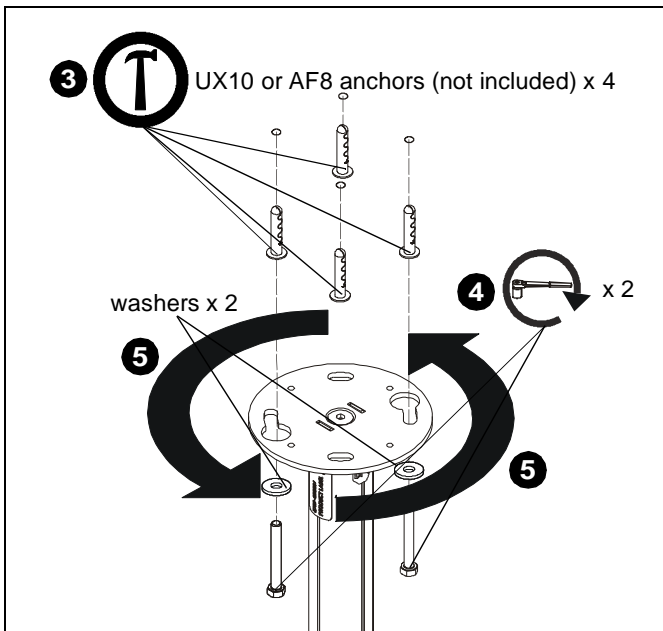

Figure 8
3. Install four UX10 or AF8 anchors into four drilled holes. (See Figure 8)
4. Loosely install two 5/16" x 2 3/4" bolts (not provided) through two 5/16" flat washers (not provided) into opposite anchors. (See Figure 8)
5. Place ceiling plate up to ceiling and turn until bolts hold plate up in position. (See Figure 8)